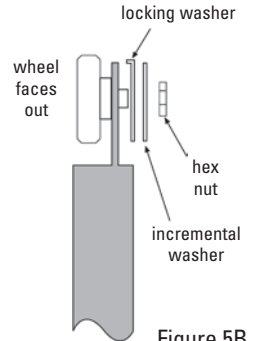
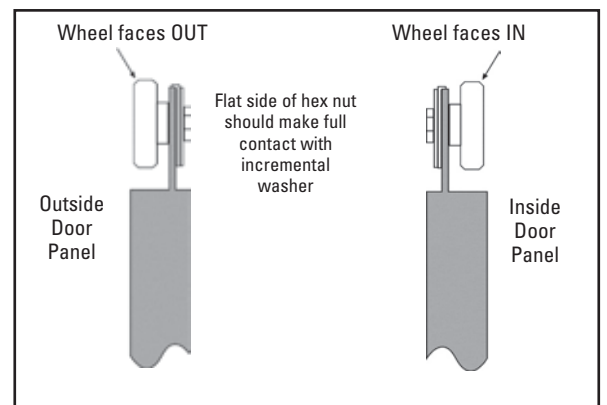

Figure 5B
Figure 6
- B. Attach two (2) Adjustable Ball Bearing Wheel Assemblies (#4A) to the Top Rail (#4) of the Outside Door Panel (#5) with the wheel on the front surface of the "fin". The metal parts should be against the frame, as shown here, and in Figure 5B. Make sure that the interlocking "bumps" and "dimples" on the two (2) washers mate and that the top lip of the locking washer is over the edge of the Top Rail (#4) "fin". Make sure that the FLAT side of the hex nut is against the incremental washer. Firmly tighten the hex nut but do NOT over-tighten (See Figure 6).
- C. Attach the remaining two (2) Adjustable Ball Bearing Wheel Assemblies (#4A) to the top of Inside Door Panel (#6) with the wheels on the back surface of the "fin", facing the inside of the enclosure as shown in Figure 6. Tighten the hex nut firmly, but do NOT over-tighten.
- Hold the Outside Door Panel (#5) so that the rollers are facing towards you. Standing outside of and facing the shower enclosure, use the index fingers of both hands to carefully push the Inside Door Panel (#6) back and out of the way as you lift the Outside Door Panel (#5) up and over the Curb (#2) and then insert the Top Rail (#4) with Adjustable Ball Bearing Wheel Assemblies (#4A) up and into the Header (#1) (See Figure 6). **DO NOT let the two (2) Door Panels (#5 and #6) strike one another.** Set the rollers into the front track of the Header (#1). If someone is assisting you, have him/her hold the Inside Door Panel (#6) back, out of your way for this step.